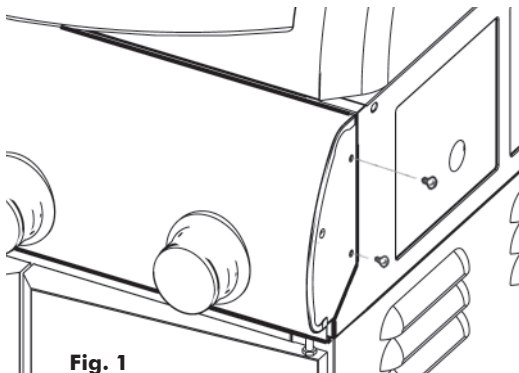
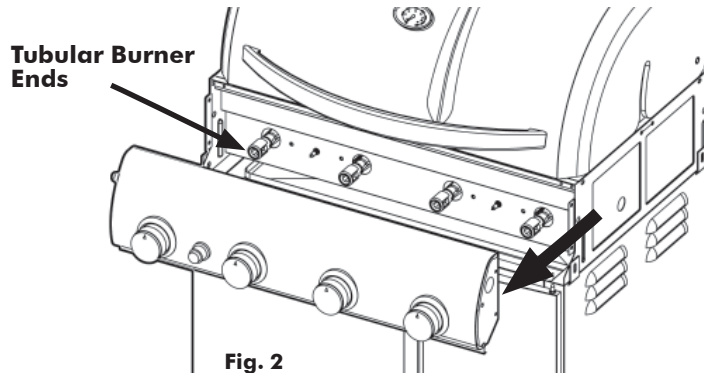

Fig. 1
Fig. 2
4. Figures 1, 2, 4 and 4a show the grill at assembly step 11, prior to attaching the Side Tables, and illustrate the initial steps in the “FIRST TIME USE LEAK TEST”.
Detach the Control Panel from the Grill Body/Firebox by removing the two 5/32” Bolts from each end. (Fig. 1) Gently pull the Control Panel away from the Body until Valves disengage from the Tubular burner ends. (Fig. 2) Support the Control Panel to keep tension off of the igniter wire leads or detach the wire leads from the Starter Button module.
10. Re-attach the wire leads to the Igniter button. Replace Control Panel around flanges at Bowl ends and align bolt holes on each side. Replace and retighten all bolts. (Fig. 1)